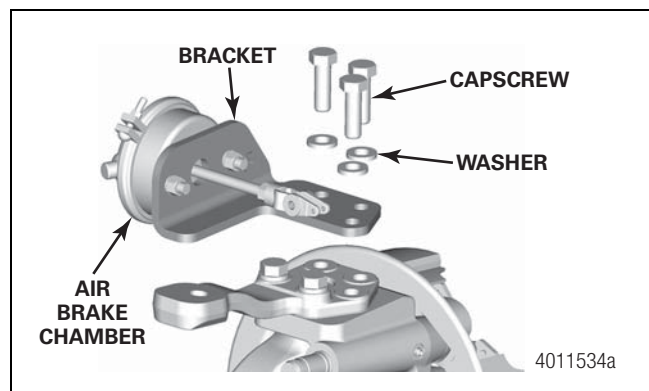

Figure 7.25
1. Install the air brake chamber and bracket. Tighten the bracket mounting capscrews to 500-650 lb-ft (678-881 N•m). Figure 7.25.